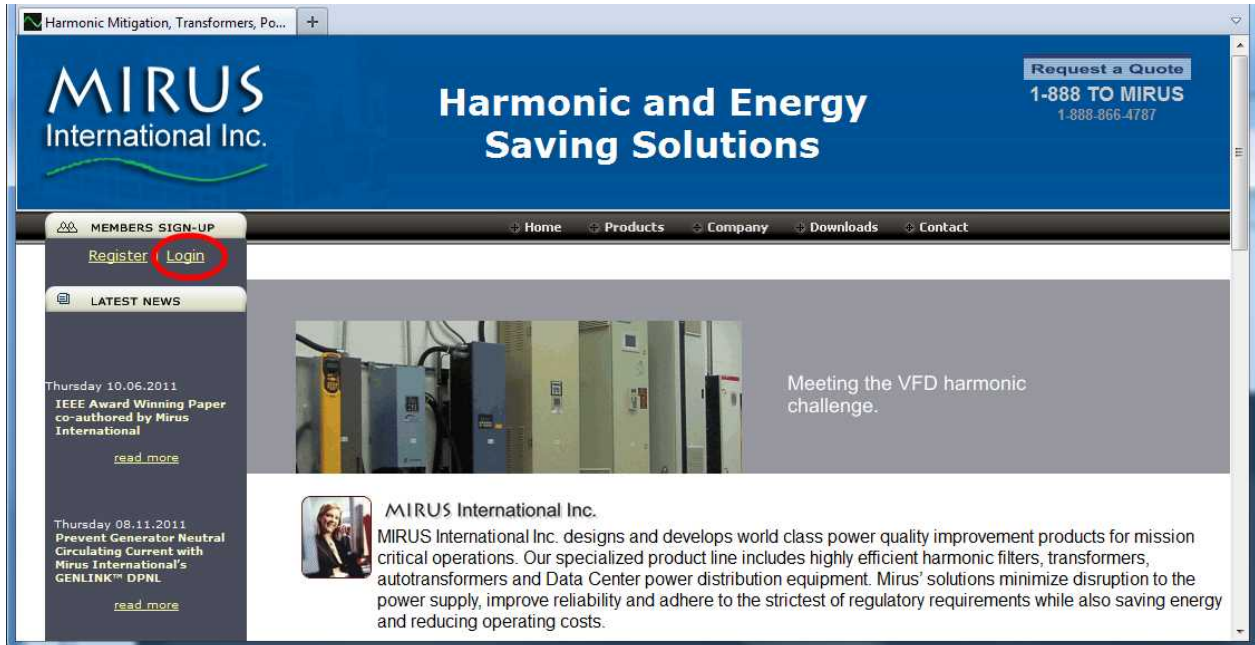

Figure 3-3: The MIRUS homepage. The red circle indicates the Login button.
2. In the *Members Sign-Up* area, click the **Login** link (see Figure 3-3).